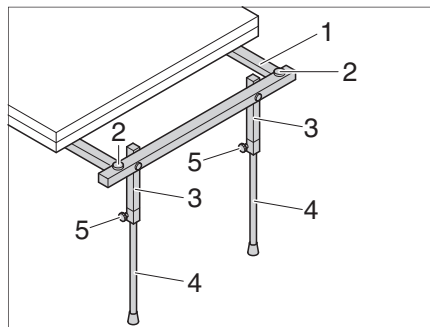

Fig. 116 Telescopic supports (Just Go only)
- Pull out the table (Fig. 116,1) substructure.
- Set the supports (Fig. 116,3) vertically.
- Open the two star grip screws (Fig. 116,5) and extend the telescopic supports (Fig. 116,4) to the desired height.
- Tighten two star grip screws (Fig. 116,5).
- Use the two adjusting screws (Fig. 116,2) to adjust the table-top to the desired height.